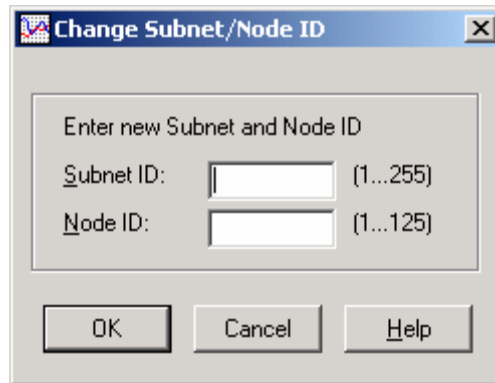

Figure 3.5 Change Subnet/Node ID Dialog
1. Click **Change Subnet/Node ID**. This opens the dialog shown in Figure 3.5.